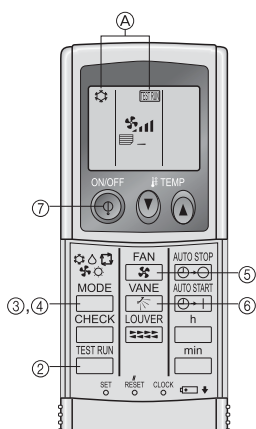

Fig. 7-7
7.2.2. Using wireless remote controller (Fig. 7-7)
- ① Turn on the power to the unit at least 12 hours before the test run.
- ② Press the **TEST RUN** button twice continuously.